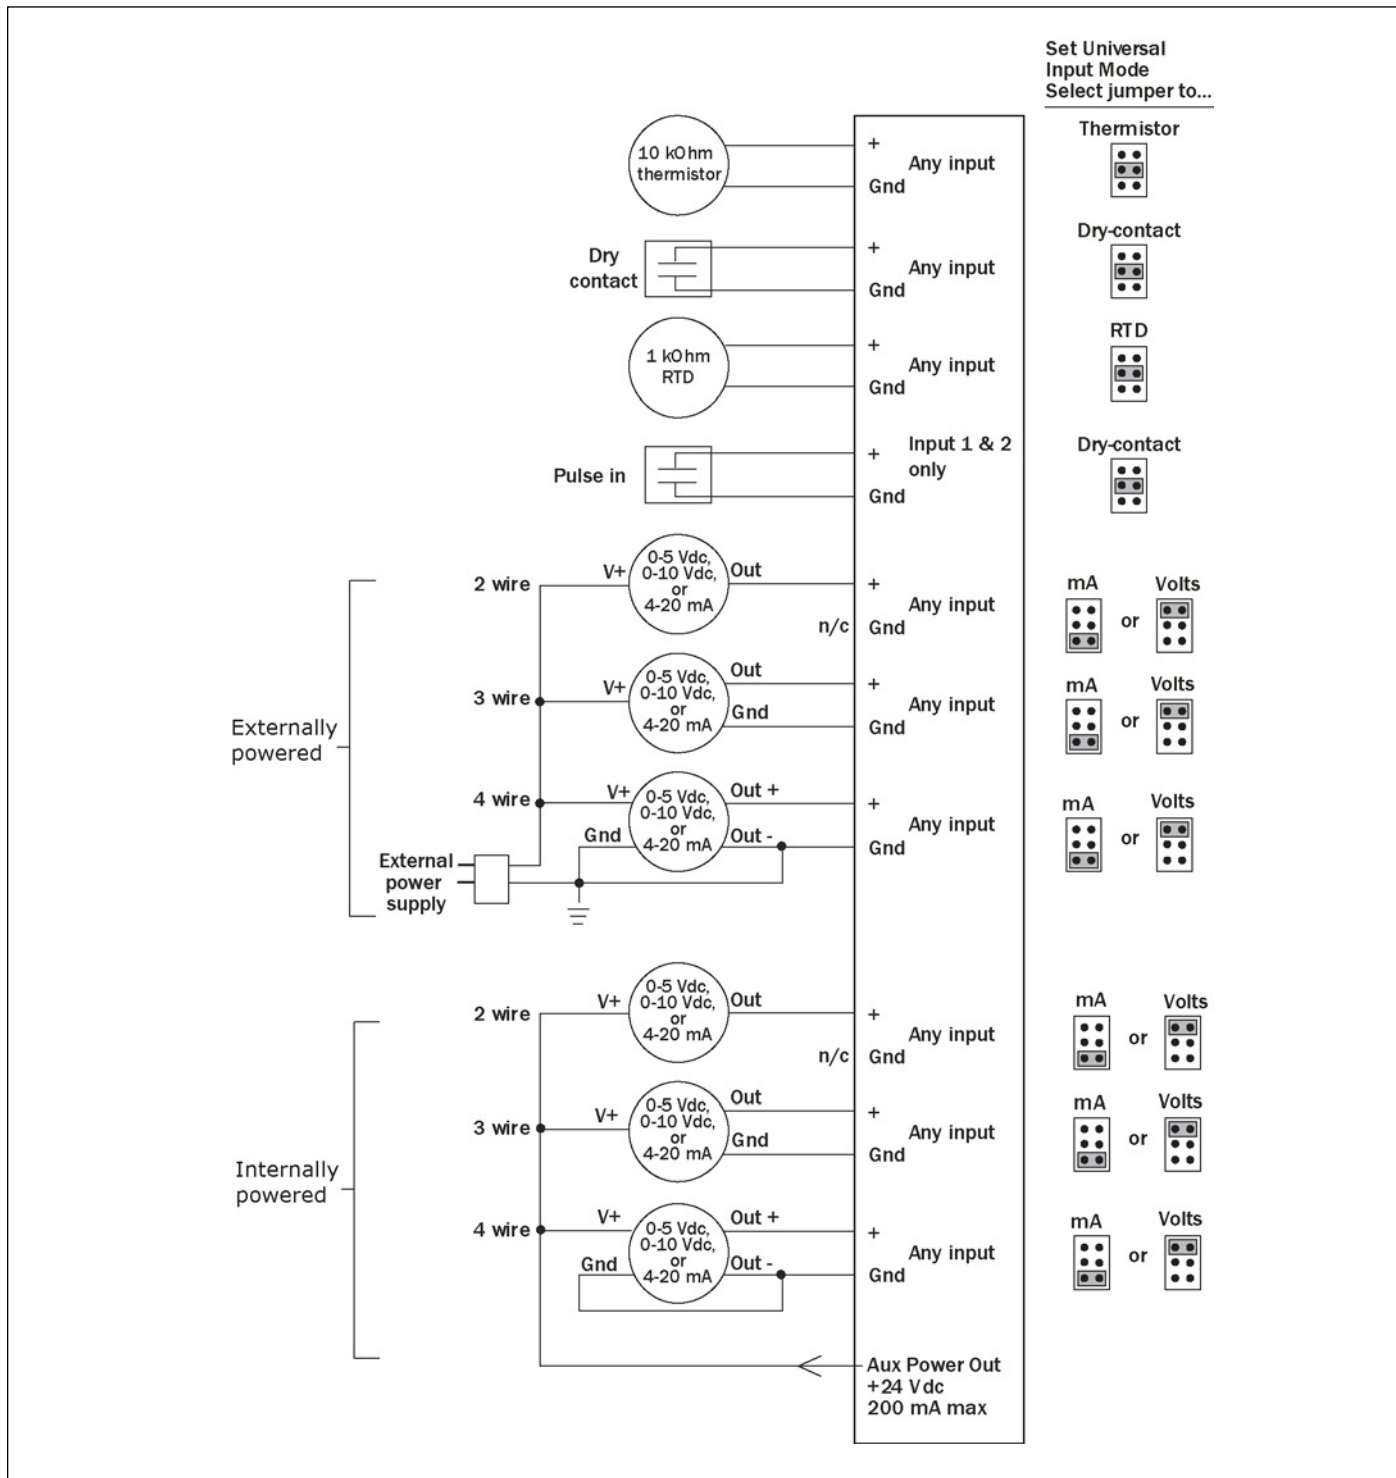

Figure 7
- Set the appropriate jumpers on the Control Air 6120. Please see Table 8 and Figure 7 for more information on Jumper Positions and corresponding signal input types.